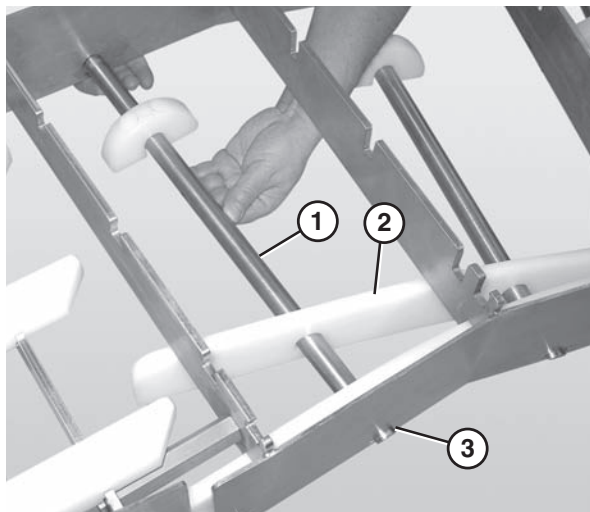

Figure 30
- Slide the long end of the curve return shaft (**Figure 30, item 1**) through the center hole in the return bottom wear strip (**Figure 30, item 2**).
- Push up on the return shaft and slide the notched end of the shaft through the small slot on the opposite side of the frame (**Figure 30, item 3**).